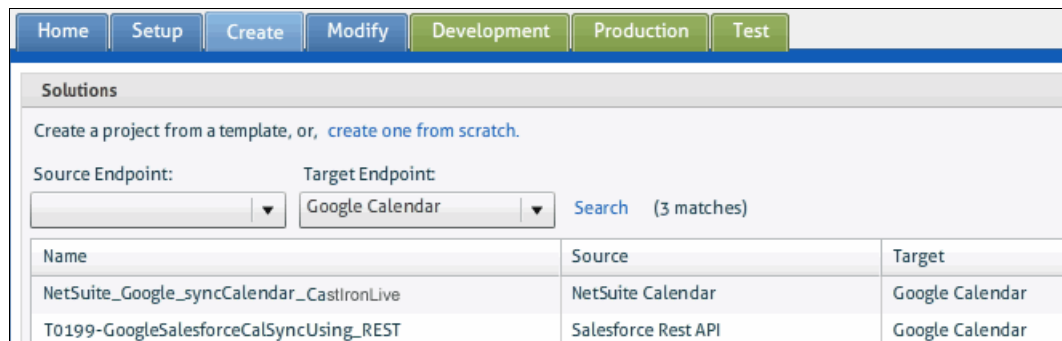

Figure 11-6 List of TIPs using Google Calendar as the target endpoint
- Click **Search**. The list of TIPs with Google Calendar as the **Target Endpoint** displays, as shown in Figure 11-6. This list can vary.